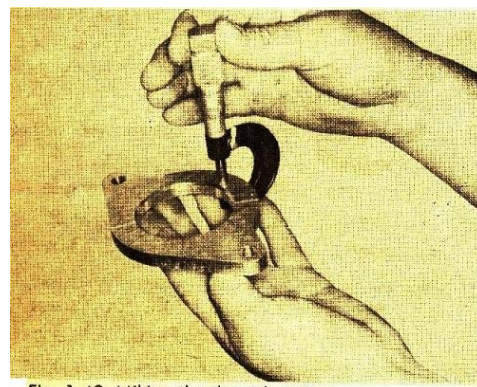

Fig. 1-42. Miking the thrust bearing
- c. Use a micrometer to measure the thrust bearing for wear. Fig. 1-42. Replace if worn to less than 0.359" (9.12 mm).